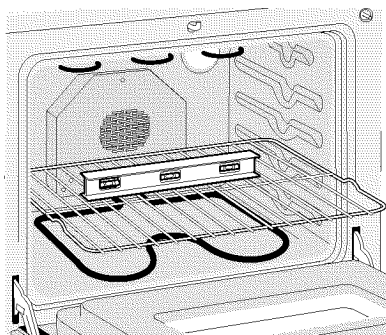
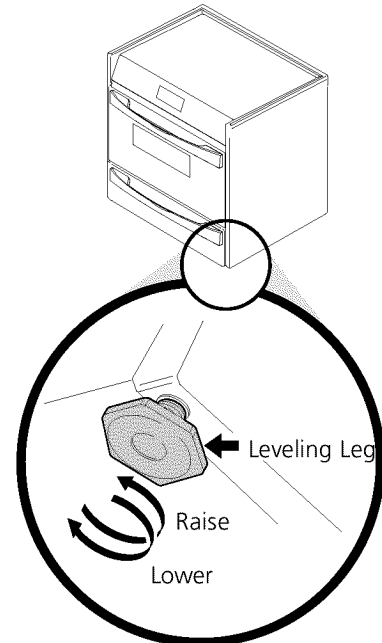

Figure 8
Figure 12
3. Check if the range is level by installing an oven rack in the center of the oven and placing a level on the rack (Figure 8).
2. Place a level on the rack (see figure 8). Take 2 readings with the level placed diagonally in one direction and then the other. Level the range, if necessary, by adjusting the 4 leg levelers with a wrench (see Figure 12).
4. Level range if necessary, by adjusting 4 leg levelers with wrench. (See Figure 12 below.) A minimum clearance of 1/8" (0.8 cm) is required between the bottom of the range and the rear leg levelers to allow room for the anti-tip brackets.